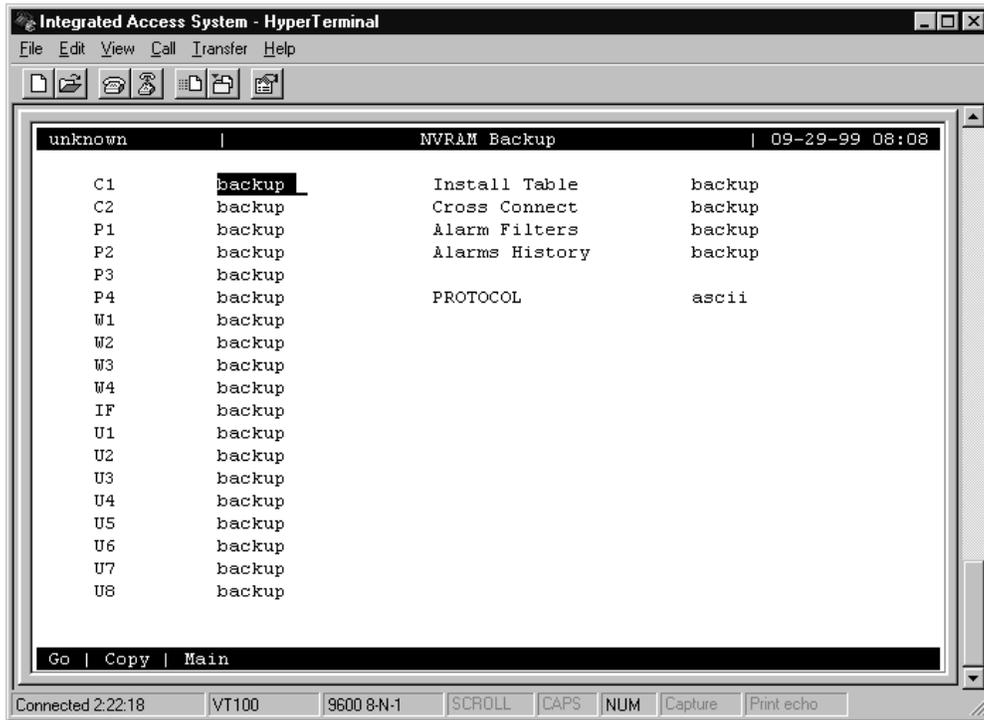

Figure 4-17. Typical System Backup Screen
The Backup procedure allows users to save the configuration parameters for all or some cards, as well as the installation table, cross-connects, alarm filters, and alarm history. This information can then be used with the **Restore** command (see below) to restore the parameter data to certain cards or to the whole system. Figure 4-17 shows a sample of the Backup screen. (The Restore screen is nearly identical to this.)
2. Press “**b**” (for **Backup**). This brings up the screen shown in Figure 4-17. The default for all slots and categories is **backup**. To do a full backup, go to Step 3.